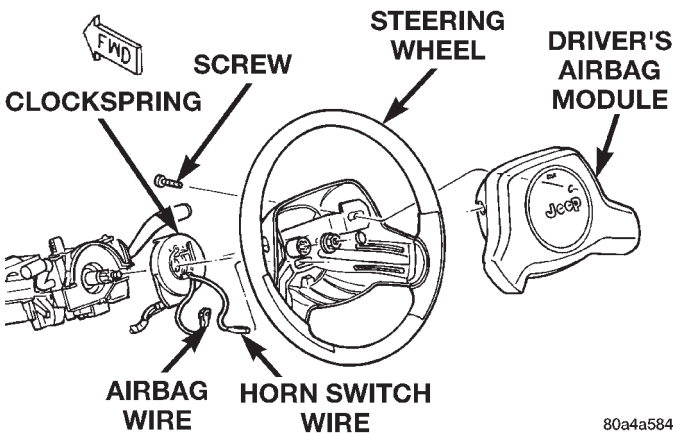

Fig. 4 Driver Side Airbag Module Remove/Install
(1) Disconnect and isolate the battery negative cable. If either of the airbags has not been deployed, wait two minutes for the system capacitor to discharge before further service.
(2) From the underside of the steering wheel, remove the two screws that secure the driver side airbag module to the steering wheel (Fig. 4).